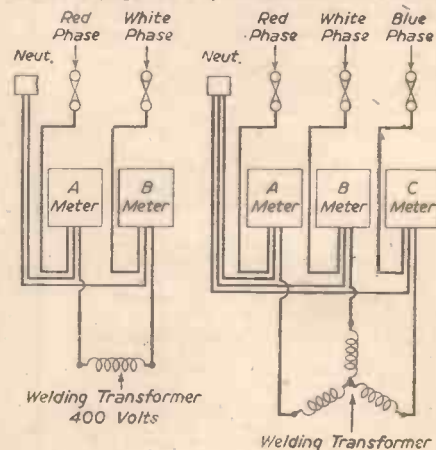

Fig. 1. Diagrams of electricity meter installations and vector diagram.
**C**AN you help me with the following metering problems? In the accompanying circuit diagrams (Figs. 1 and 2) meters A run backwards.